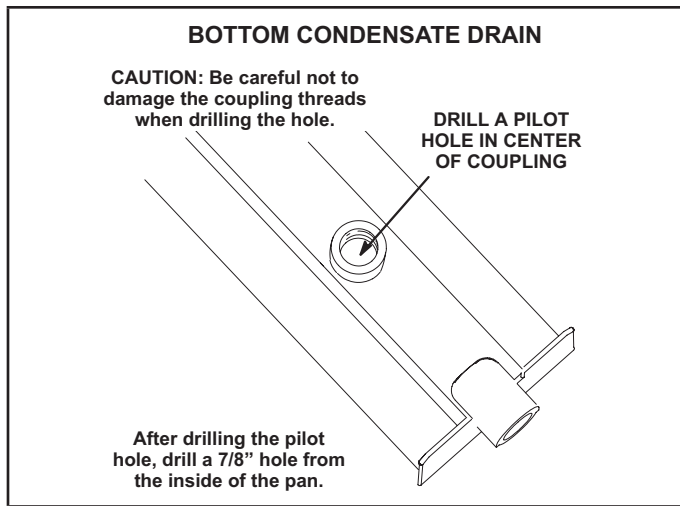

**FIGURE 9**
- 5 - Lift front edge of the drain pan (to clear bottom drain plug) and slide drain pan out of unit. See FIGURE 9.